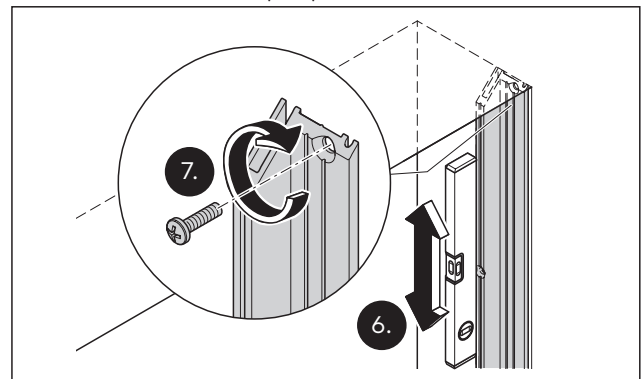

Fig. 23 Align and fix the door frame adapter profile
6. Align the door frame adapter profile (Fig. 23).